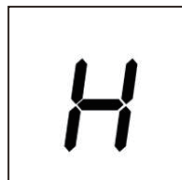

Fig.6
- “H” showing means the cooking zone is hot to touch. It will disappear when the surface has cooled down to a safe temperature. It can also be used as an energy saving function if you want to heat further pans, use the hotplate that is still hot. (Fig.6)